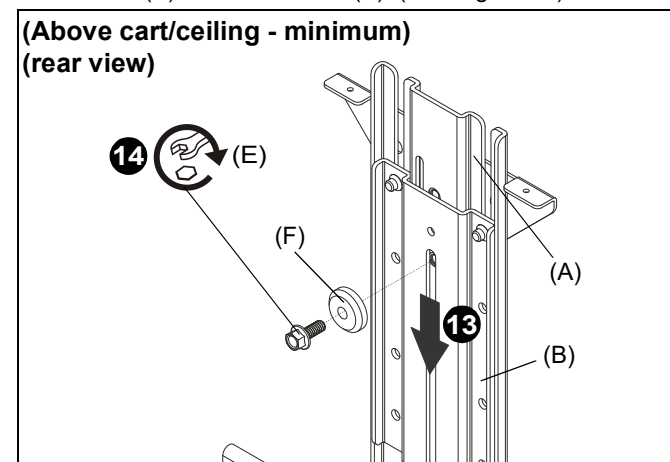

Figure 22
13. (For **minimum extension**) Slide upright bracket (A) behind main bracket (B). (See Figure 22)
14. (For **minimum extension**) Use 1/4-20 x 5/8" hex head flange bolt (E) and center washer (F) to secure upright bracket (A) to main bracket (B). (See Figure 22)